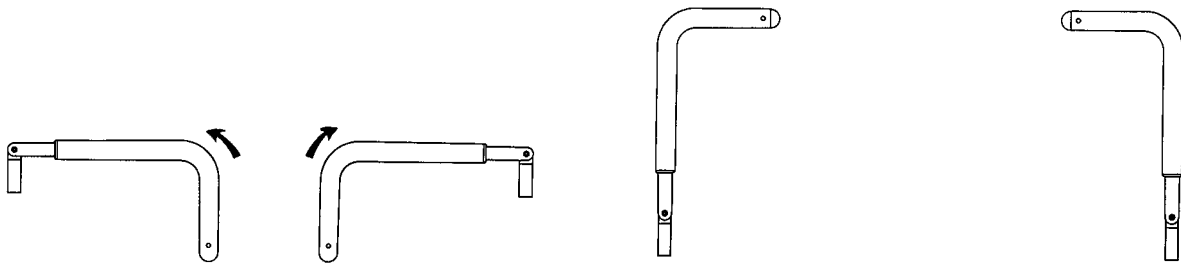

Figure 3 – Positioning the head end push handles
1. Pivot the handles up from the end of the product (Figure 3).